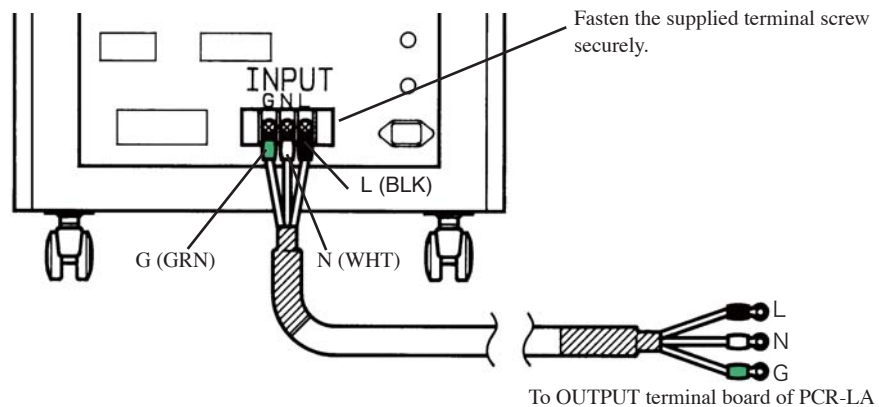

Fig. 1-5 Input Cable Connection
3. Connect input cable A to the INPUT terminal board of the impedance network, according to Fig. 1-5.